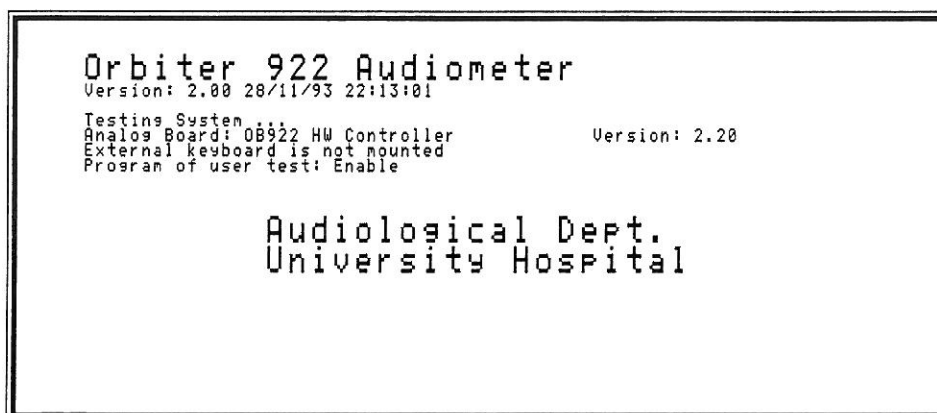

Fig. 4.1. The Power-On Screen.
| 3. The screen illuminates and displays "Boot Program" for a couple of seconds, and then a second screen displays the following (see Fig. 4.1 below): which version of the Orbiter software is installed, the date and time of the software release, which EPROM version is installed on the analog PCB, whether or not an external keyboard is connected, and whether or not programming of User Tests has been enabled. At the same time the audiometer runs an automatic self-test and displays the version number of the hardware controller and whether or not a PC keyboard or CD Player is connected. | Software Version
4. In Fig. 4.1, the two lines which display "Audiological Dept., University Hospital" may be configured by your local distributor by means of ORBICON™ to read your own institution's name and address.
Following power-on, or after selecting **I.D.**, the screen shown in Fig. 4.1 below is displayed: